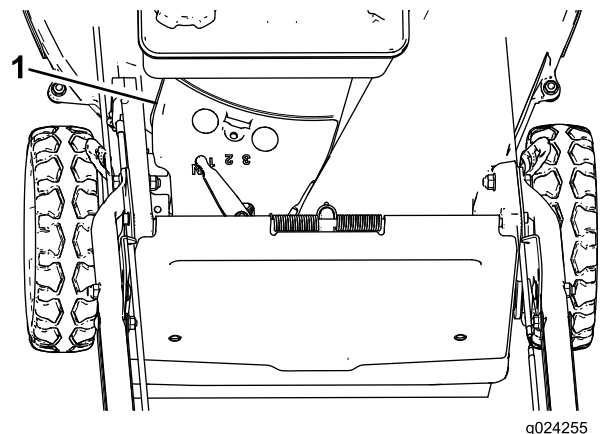

Figure 32
- Remove the belt cover (Figure 32) from the mower housing.